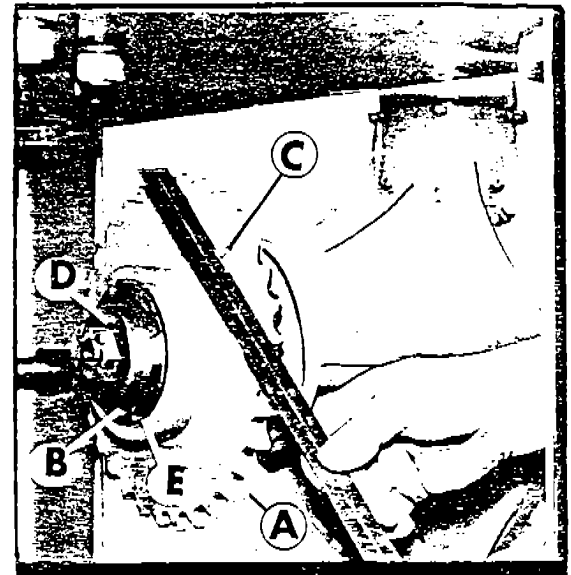

FIG. 3
Driving sprocket (A) Fig. 3 is aligned with driven sprocket by loosening taper-lock bushing (B) and aligning the sprockets by means of the straight edge (C). When alignment is completed, lock taper-lock bushing (B) to hub (D) by means of set screws (E).